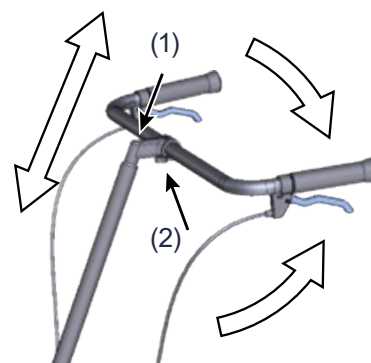

Fig 33.
1. Loosen screw (1) Fig 33.
1. Loosen screw (2) Fig 33.